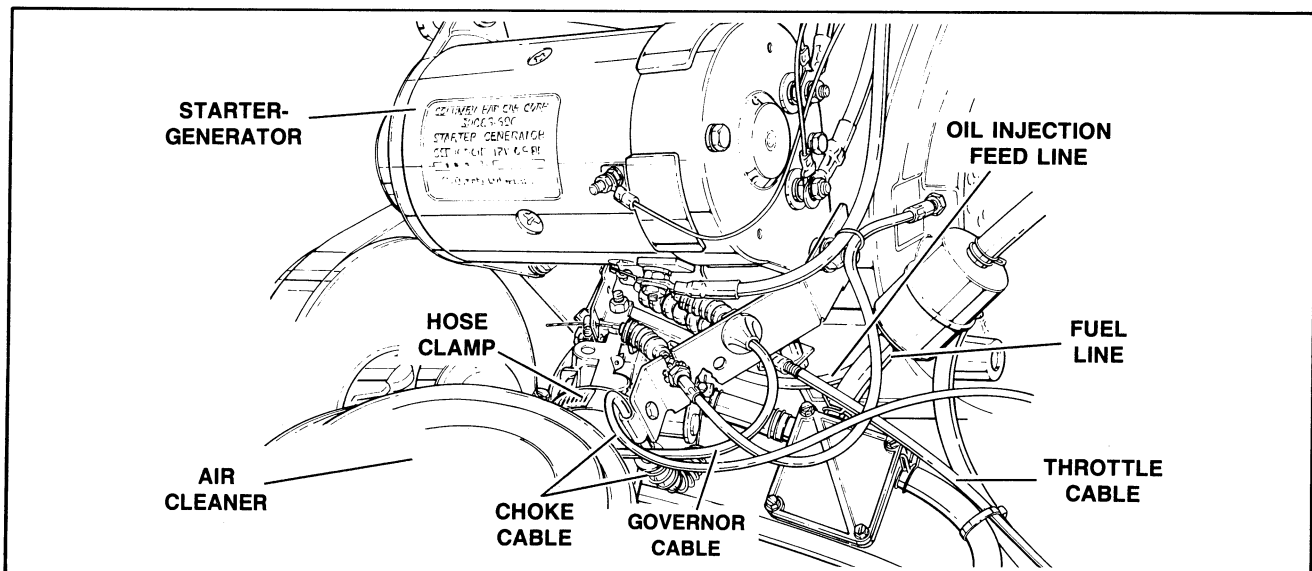

Figure 50 – Engine Removal
- d. See Figure 50. Disconnect fuel line at the fuel
- e. See Figure 50. Install air cleaner hose to carburetor and tighten clamp. Secure the fuel line to the fuel pump. Install oil injection feed line to oil pump. (Purge oil line of air.)
- f. See Figure 50. Connect throttle and choke to carburetor and governor cable to governor arm. Install carburetor lever and oil pump cable after starter is on and before tightened.
- g. See Figure 50. Install the starter-generator and cable guide. Connect coil and check cable operation and oil pump setting and governor setting.